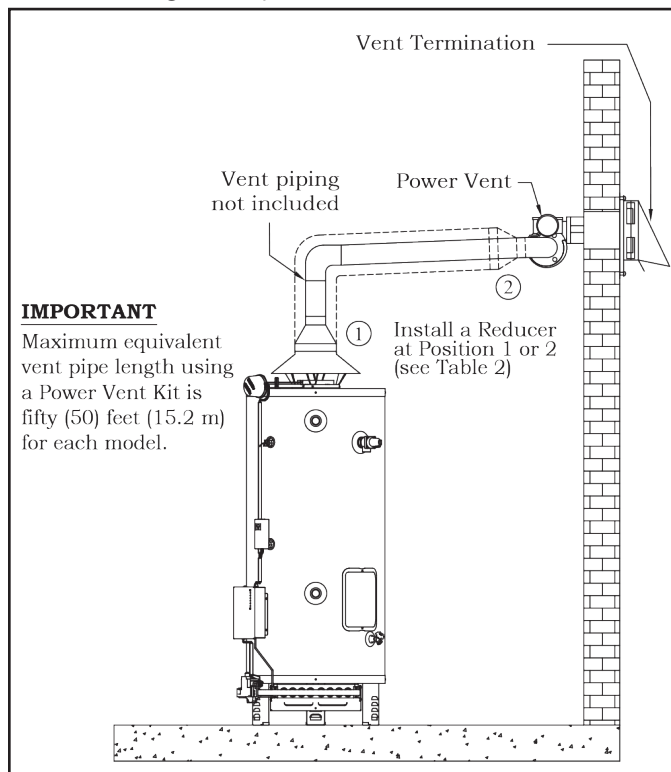
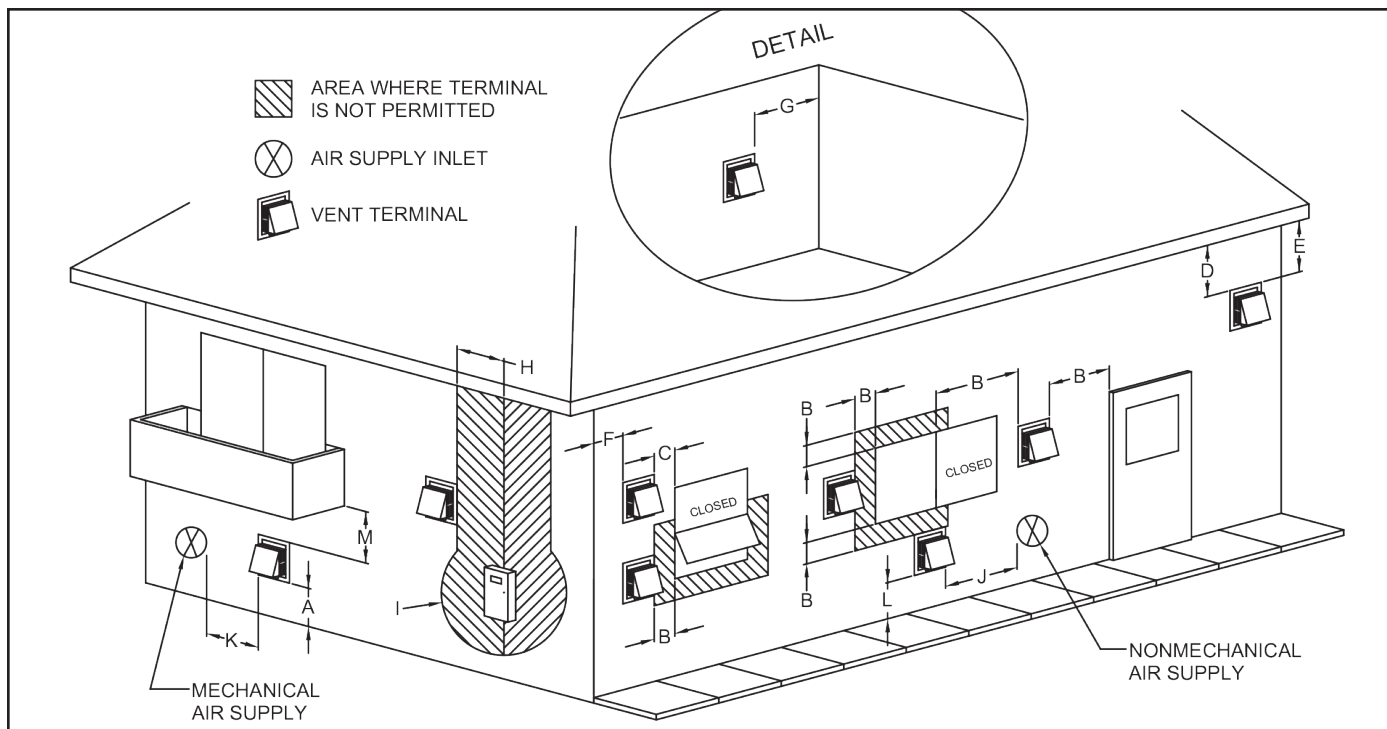
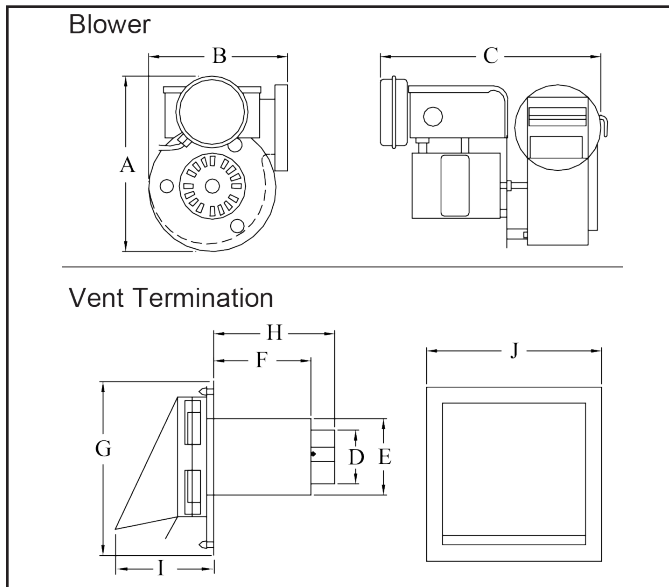

Figure 10 - Power Vent Kit Installation
Figure 11 - Side Wall Power Vent Installation Detail
Figure 12 - Power Venter and Vent Termination
- All horizontal runs must have a minimum rise of $\frac{1}{4}$ " (21 mm/m) per foot of run. See Figure 10.
This water heater is approved for installation with a Tjernlund™ side wall power vent kit. See Figure 10. This kit can be installed as part of a new installation or retrofitted onto an existing installation. The kit consists of a power venter and vent termination assembly. See Table 5 and Figure 12. Vent piping is not included. Before beginning the installation of the power vent kit, make sure that it is the appropriate kit for your model water heater. See Tables 5 and 6. Make sure that the water heater is located so all vent terminal clearances will be respected. See Figure 11. Maximum equivalent vent pipe length is 50' for each model. For complete instructions on the side wall vent kit installation, consult the manual that comes with the kit.